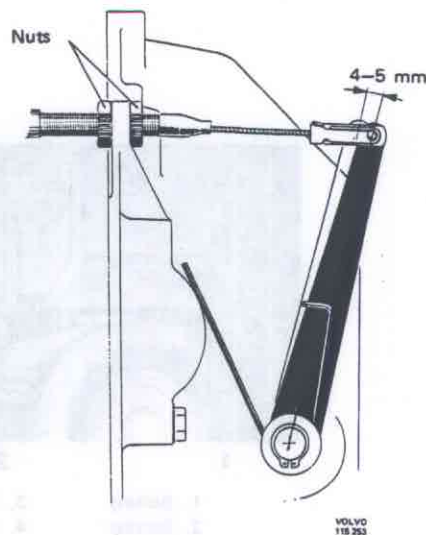

Fig. 43-132. Clutch clearance
15. Fit and secure the clutch wire sleeve on the clutch casing. Tighten up the nuts. Fit and secure the fork on the clutch lever. Adjust the lever play with the help of the sleeve nuts. The play should be 4-5 mm (0.16-0.20"), see Fig. 43-132.